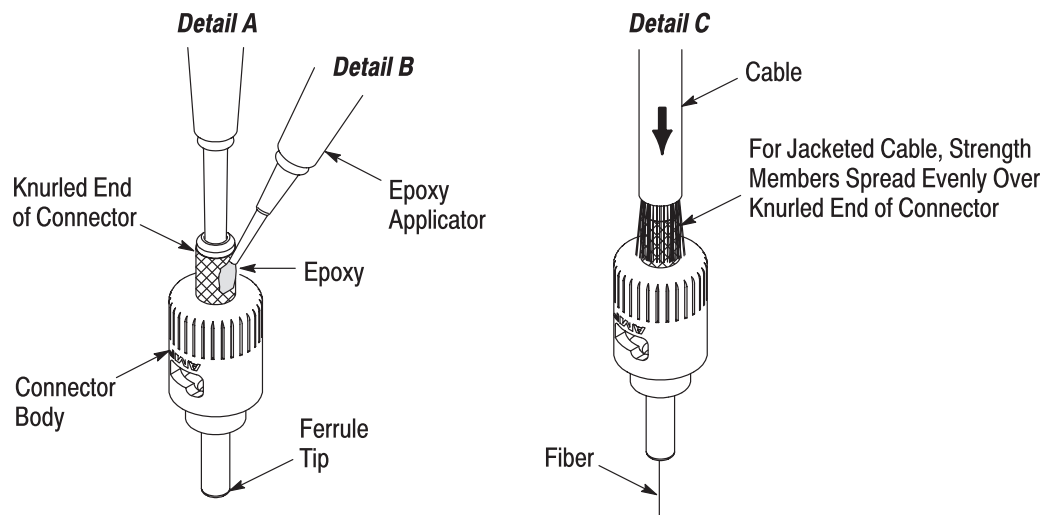

Figure 4
1. Remove the protective cap from the connector. Hold the connector with the knurled end up. Insert the tip of the epoxy applicator as far as possible into the connector body. See Figure 4, Detail A.
4. For jacketed cable, apply a drop of epoxy to the outside of the knurled end of the connector, and distribute it evenly around the circumference of the knurled end. See Figure 4, Detail B. DO NOT allow any epoxy on the coupling nut or spring area.
5. Using a twisting motion, gently insert the fiber into the connector until it bottoms. The fiber should appear at the tip of the ferrule. Refer to Figure 4, Detail C.
- For jacketed cable, make sure that the strength members are spread out evenly over the knurled end of the connector. See Figure 4, Detail C.